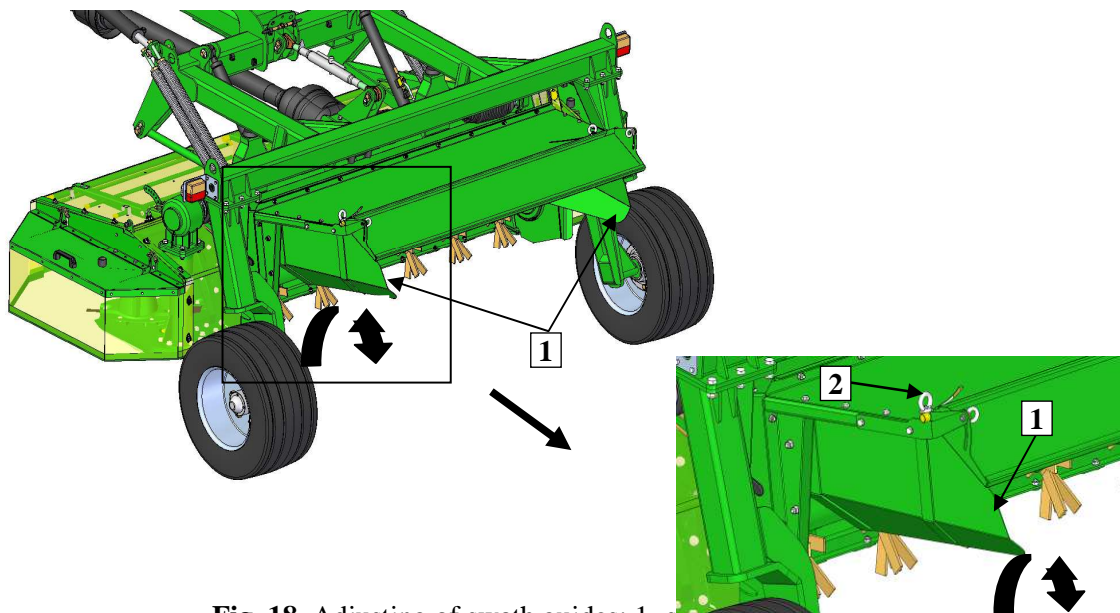

Fig. 18. Adjusting of swath guides: 1- swath guide, 2 - adjustment bolt
In order to set swath width adjust swath guides (1) (**Fig. 18**) (Models: KDC 260 S (T), KDC 300 S (T), 340 S (T)):
- ☐ loosen eye screw (2) on swath guide,
- ☐ set swath guide (1) as required,